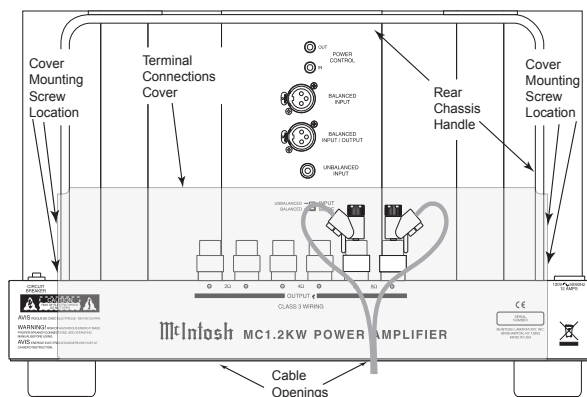

Figure 7a (Inside USA and Canada)
5. Attach the supplied Terminal Connections Cover with the four Phillips Head Mounting Screws (10-32 x 1/2 inch) to the Rear Panel of the MC1.2KW Amplifier. Refer to figures 7a and 7b.